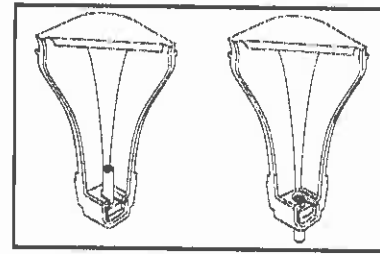

Figure 3 - Leveling Legs
- Slide assembled nuts and bolts into the slot on the legs with the nuts on the bottom. Use a 5/32" (3.96 mm) Allen wrench to adjust legs to the desired level. See Figure 3.